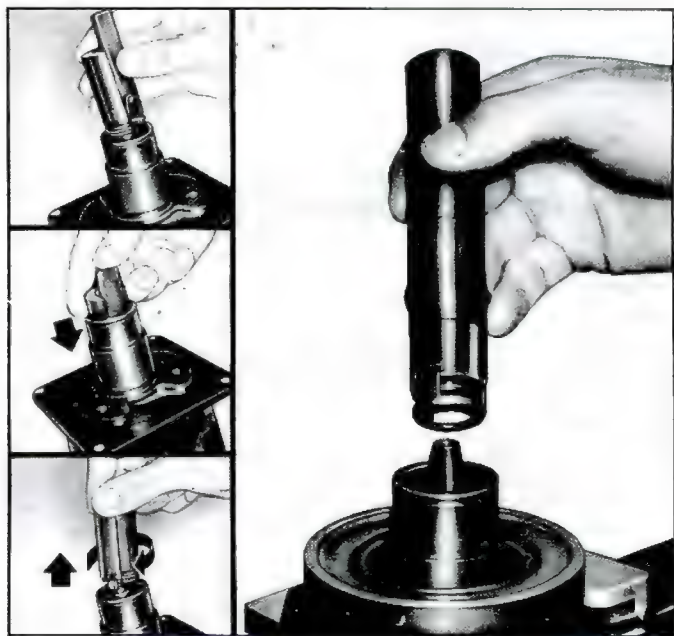

Fig. 42—Replacing Seal and "O" Ring
- Engage seal onto the locking tangs of Tool J-9392 (fig. 42) and, with J-21303 installed over the end of the shaft, carefully insert the seal and tool over the end of the shaft. Turn seal to engage the flat on the shaft, then remove the tool.
To install the "O" ring place "O" ring on tool as shown in Figure 42, insert the tool fully into the front head bore, press down the slider, twist entire tool to seat "O" ring and then remove tool.